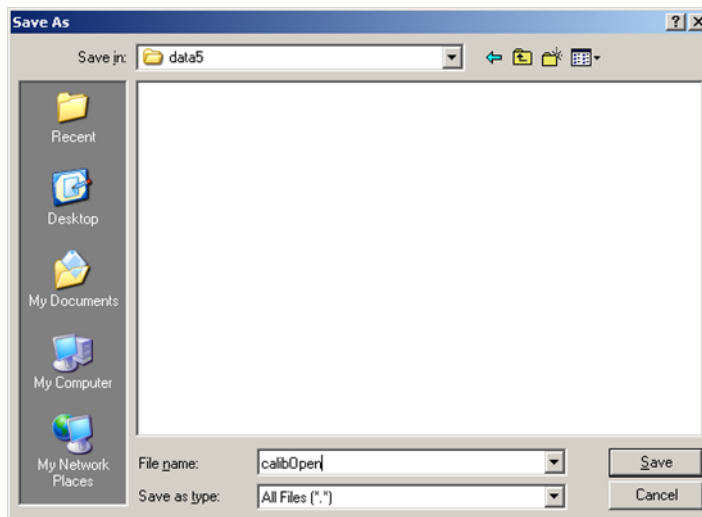

Figure D-7: Save "open" calibration data
- Select **File > Save As** and type the filename `calibOpen` as shown in Figure D-7 to save the data in the folder created in Step 1 for this Bushing Adaptor.